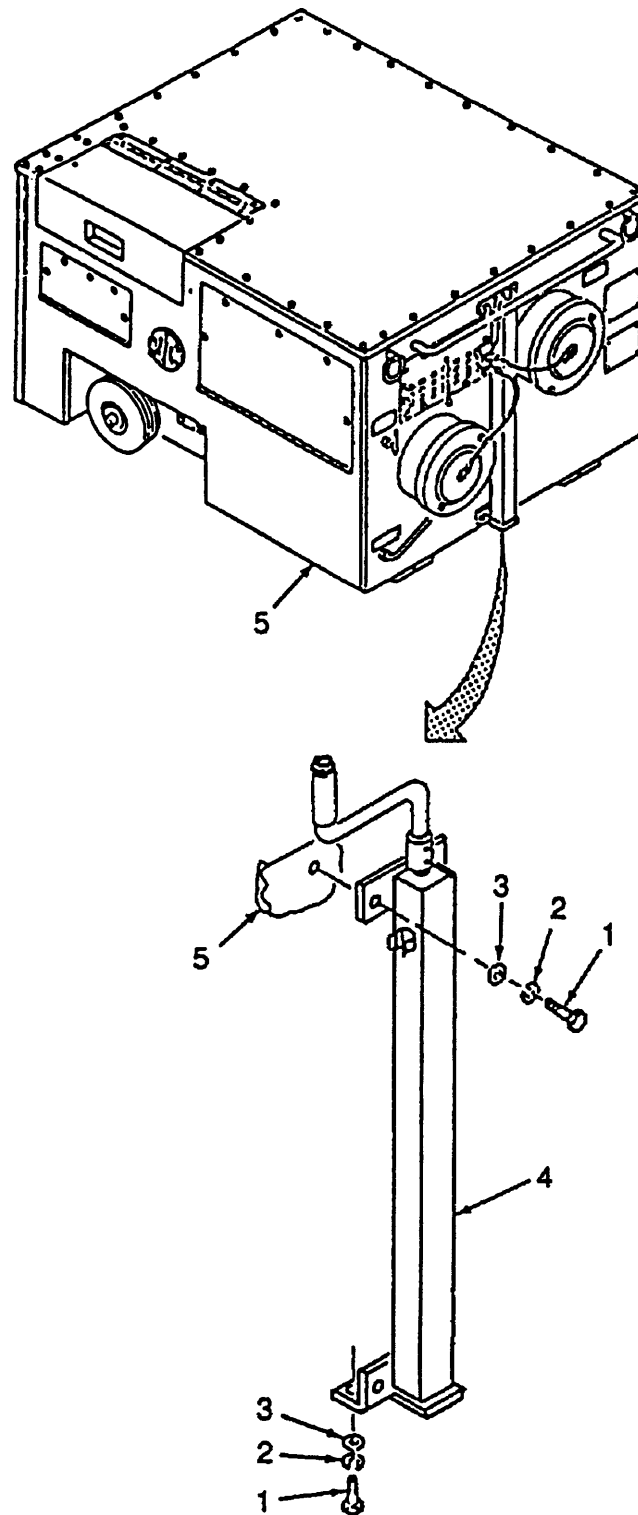

Figure 4-77. Jack Assembly
a. Removal (Refer to Figure 4-77)
- (1) Remove four screws (1), four lockwashers (2), four flat washers (3) from front of jack (4). Discard lockwashers.
- (2) Remove screw (1), lockwasher (2), flat washer (3) from bottom of jack (4) and remove jack from frame (5). Discard lockwashers.